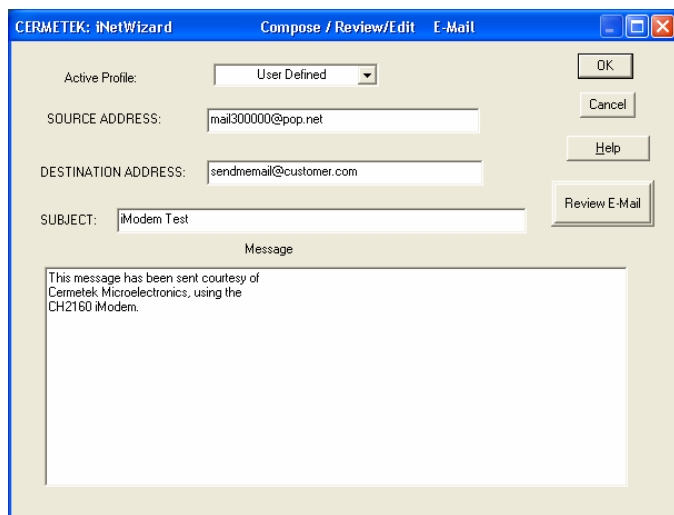

Figure 21. iNetWizard® Compose/Review/Edit Email window after DESTINATION address modifications per Example 3.
Step 2B. Edit the DESTINATION address. Do not enter <CR> after the required character edits as this will cause iNetWizard® to exit the COMPOSE/REVIEW/EDIT window after executing the specified DESTINATION address change(s). See the changes in Figure 21.